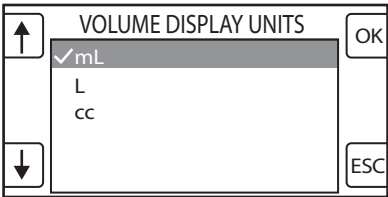

Figure 12 Sample System Setting Screen
6. From the System Setting screen, push the buttons next to the arrow icons to highlight or adjust the appropriate setting option (see figure 12). See *System Setting Options* table for available setting options.